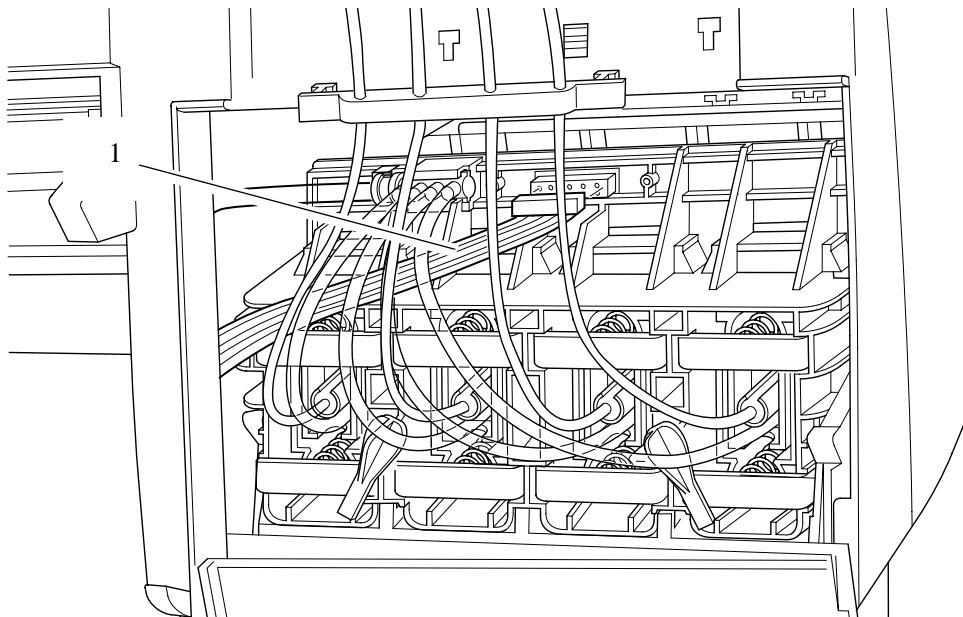

Figure 12: Ink Cartridge Tube Connector Cable
5. Disconnect the ink cartridge tube connector cable (refer to Figure 12).